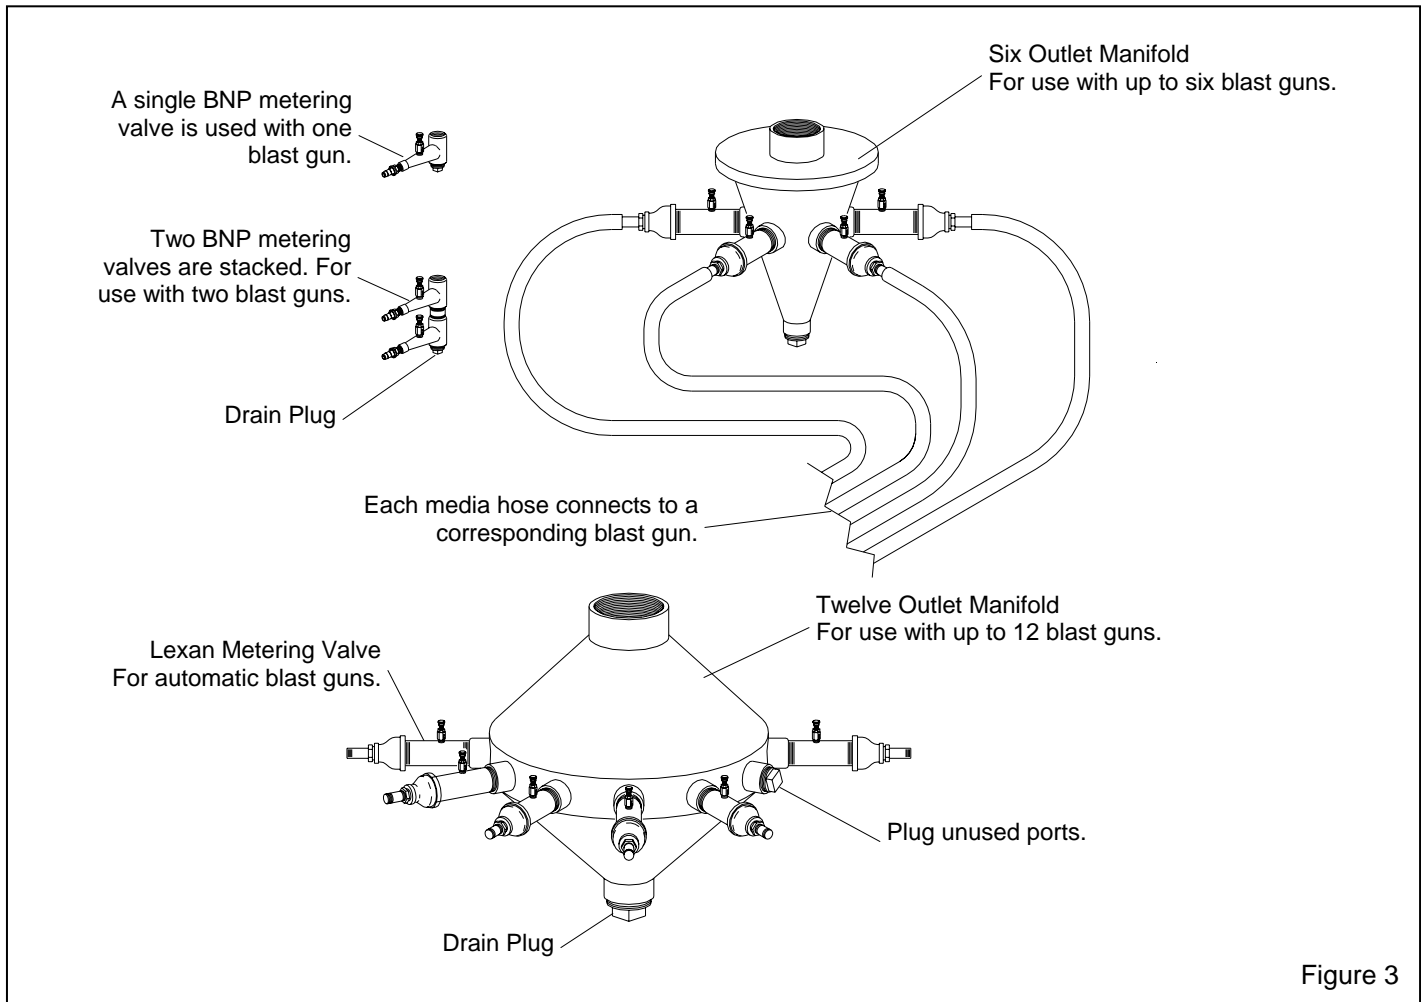

Figure 3
**2.4.1** The type of metering valve feed system is determined by the number of blast guns. The illustration in Figure 3 shows several systems. When one blast gun is used, the metering valve is attached to the pipe nipple located on the bottom of the reclaimer hopper. If two guns are used, the first metering valve is installed as stated above, and the second valve is installed under it as shown. When more than two blast guns are used, a media manifold is attached to the bottom of the reclaimer, using the same amount of valves as blast guns. Marking each metering valve, hose and blast gun with a corresponding number makes adjustments and troubleshooting easier.